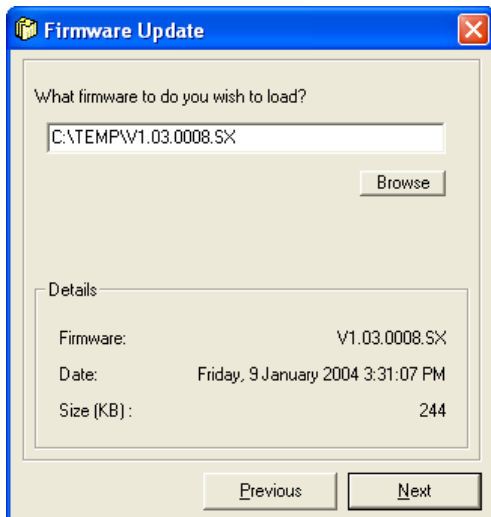

Figure 37 – File window
9. Make sure that all the boxes as shown in Figure 37 are checked.